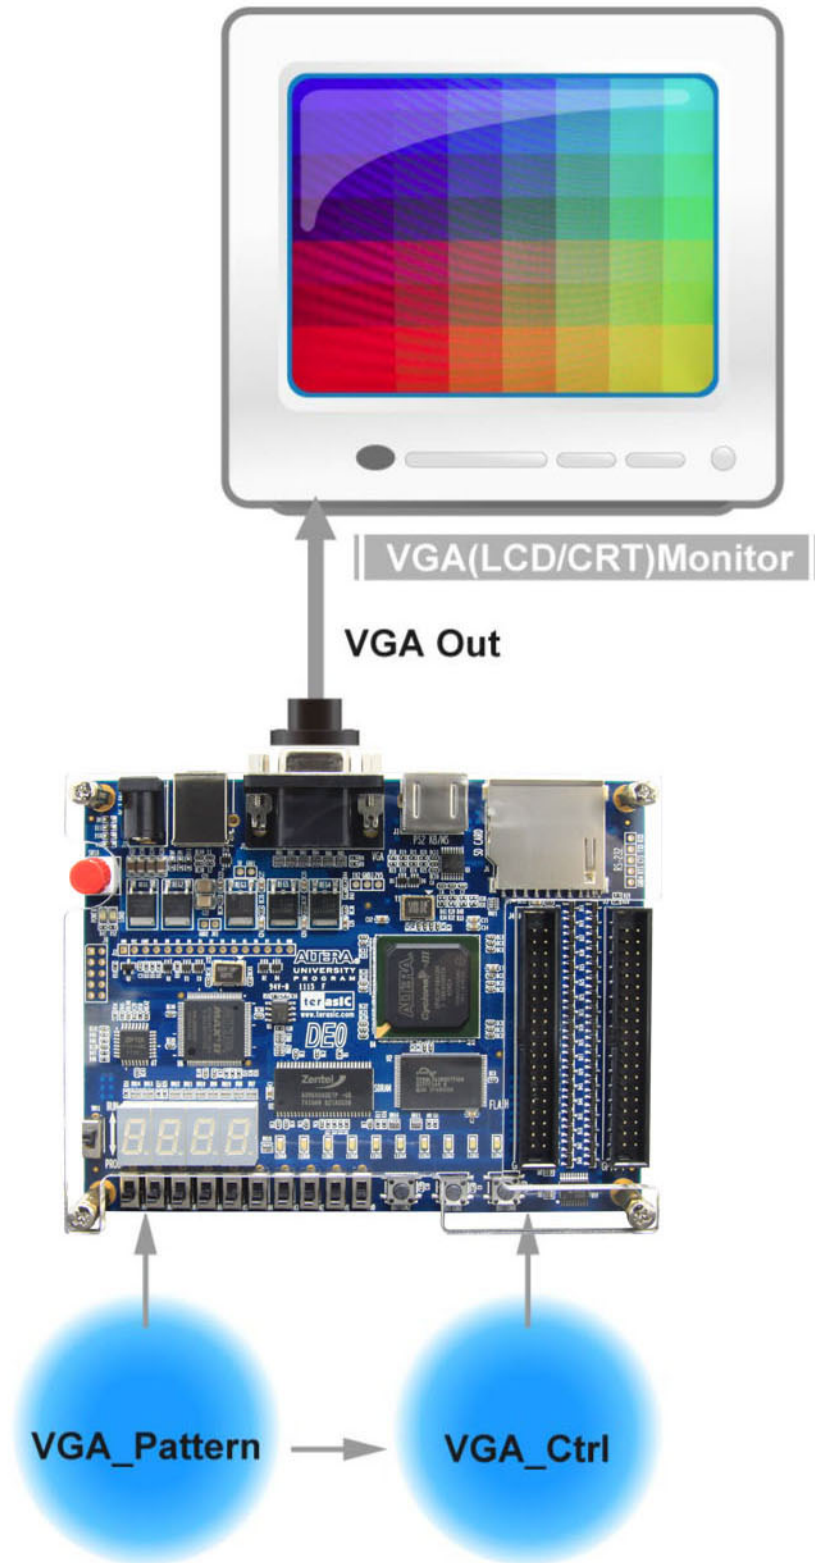

Figure 5-6. The setup for the VGA color pattern demonstration
- The LCD/CRT monitor should display the color pattern as shown in Figure 5-6.
Figure 5-6 illustrates the setup for this demonstration.